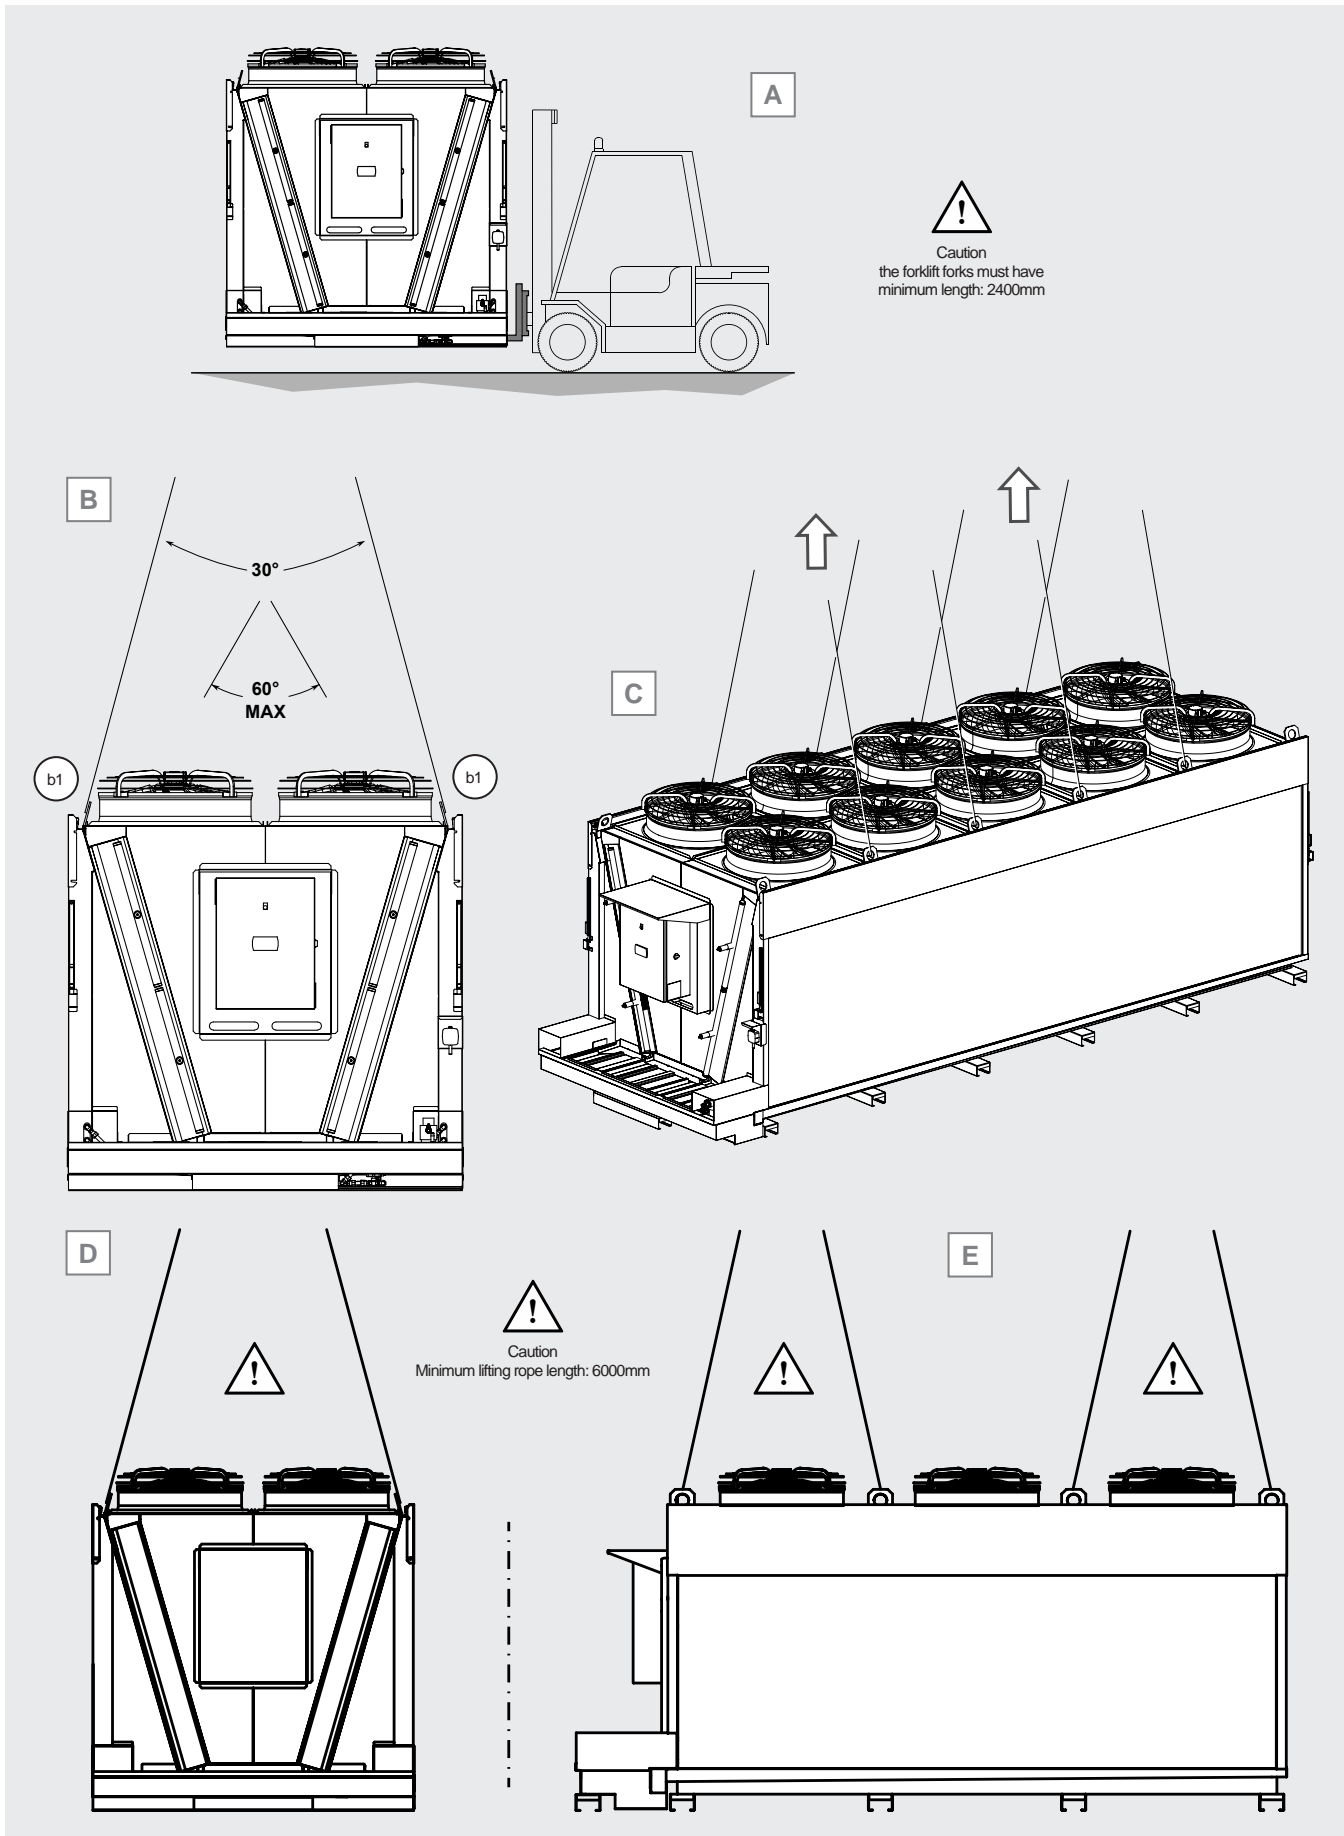

Figure 6
- 5.7 For loading and unloading the unit from the transport vehicle with a forklift, the lifting brackets must be longer than or at least equal to 2400 mm. See Figure 6 A.
- 5.8 For loading and unloading operations from the transport vehicle using a crane or overhead crane, the equipment must be attached to the lifting points as specified in Table 3. Refer to Figure 6 B. Note: to facilitate loading and unloading operations only, it is permissible to use just 4 lifting points.
- 5.10.1 attach the crane or overhead crane to the lifting points (b1), see Figure 6 B. Use all lifting points. For models with five motors per row, the use of 4 lifting points per side (central lifting points) is acceptable.
- 5.10.2 lift the model and place it in its final location. See Figure 6 C.
For loading and unloading the unit from the transport vehicle and for handling operations, lifting slings and spreader beams must be used. Spreader beams may be applied either longitudinally or transversely; refer to Figure 6 D and E.